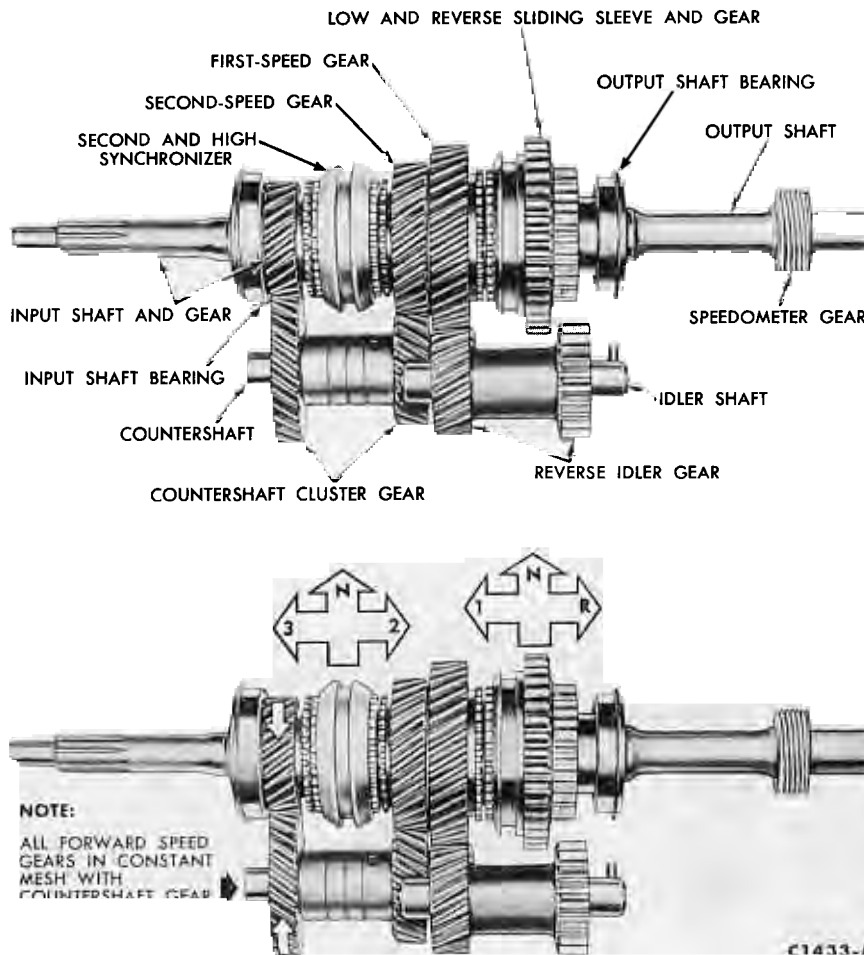

FIG. 2—Power Flow—3-Speed Transmission
This transmission is of the fully synchronized type, with all gears except the reverse gear and sleeve being in constant mesh. All forward-speed changes are accomplished with synchronizer sleeves (Fig. 2) instead of sliding gears. The synchro-
The forward-speed gears are helical-cut and are in constant mesh (Fig. 2). Gears used in the reverse gear train are spur-cut and are not synchronized.
3. Slide the front of the drive-shaft out of the extension housing and off the output shaft. Insert the tool shown in Fig. 2, Part 6-1, to
9. Remove the tool shown in Fig. 2, Part 6-1, from the extension housing. Slide the front universal joint yoke onto the output shaft and into the extension housing. Connect the rear universal joint to the axle pinion flange and torque the nuts to specifications.